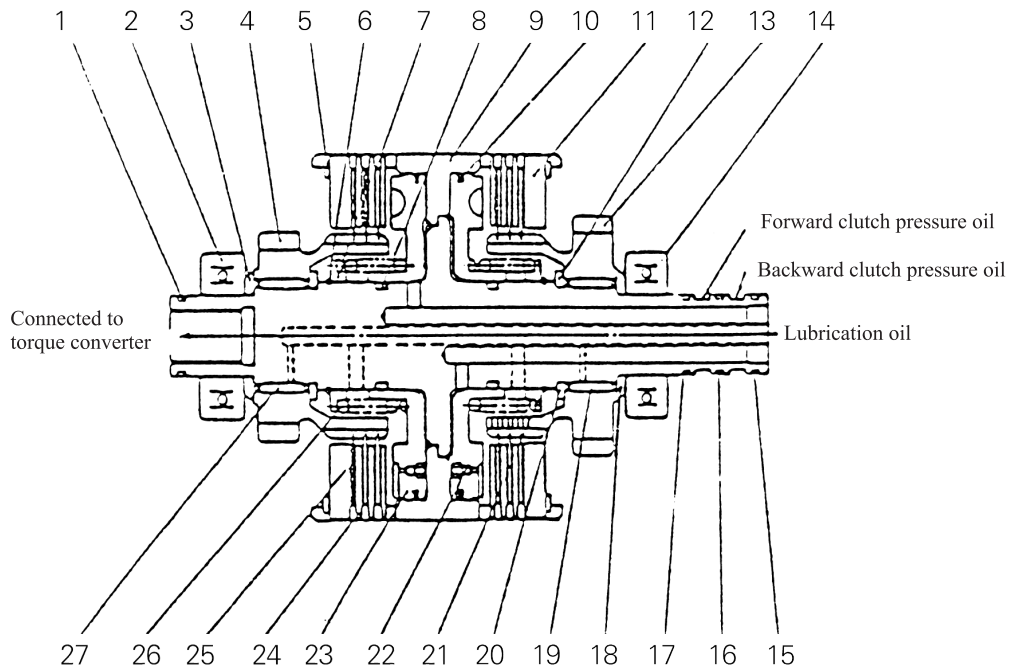

Fig.4-3 Hydraulic clutch
4.3 Hydraulic Clutch (See Fig.4-3)